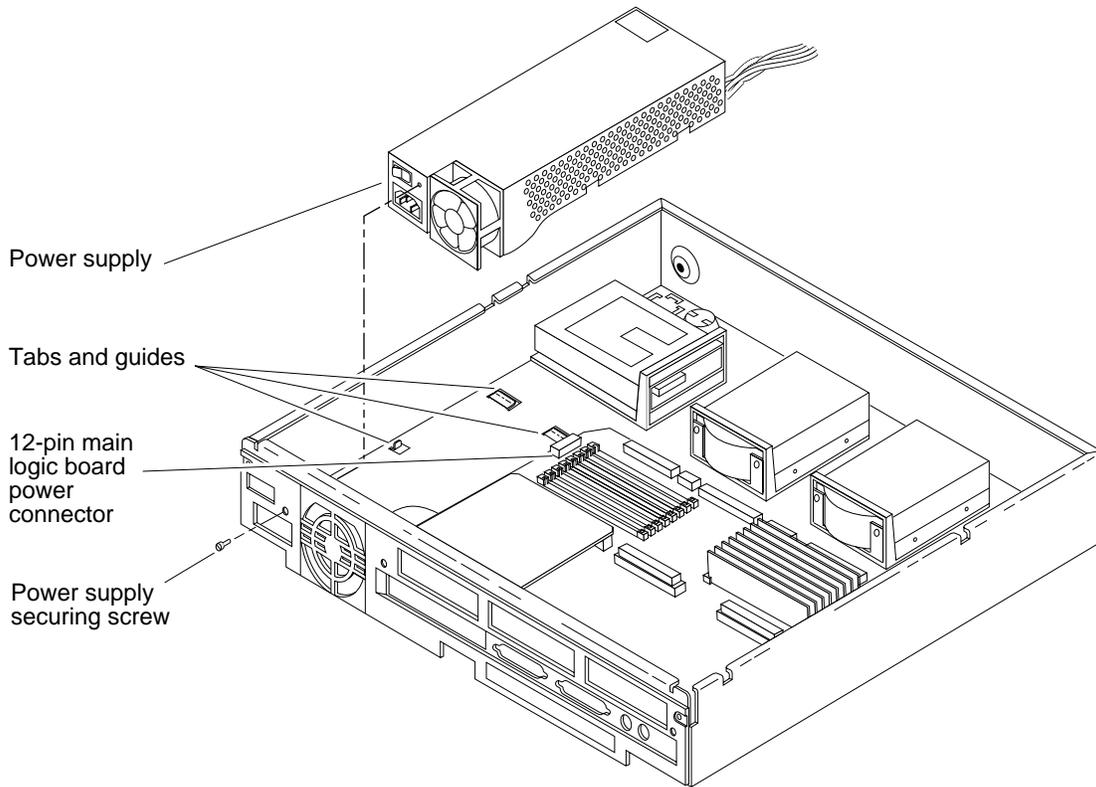

Figure 4-5 Removing and Replacing the Power Supply
The system can be equipped with a variety of optional printed circuit boards. The following list shows some of the SBus boards that plug into the SBus slots on the system's main logic board. Figure 4-5 shows which slots to use.
Figure 4-5 shows which boards plug into which slots.
4. See Figure 4-5 for a list of SBus boards and what slots they may be installed in. Figure 4-1 illustrates the SBus slots.